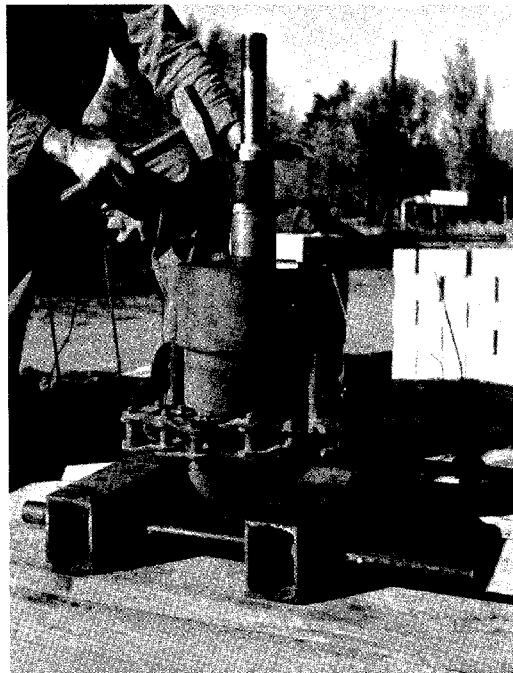

Fig. 7-9. Installing A Stabilizer.
N. To install the stabilizer, wet the stabilizer ID or the tube OD with water, soap suds, or liquid clay, and push the stabilizer over the tube. Complete the installation by driving with a heavy mallet. (See Fig. 7-9.) The top of the stabilizer should be slightly below the top end of the column section.